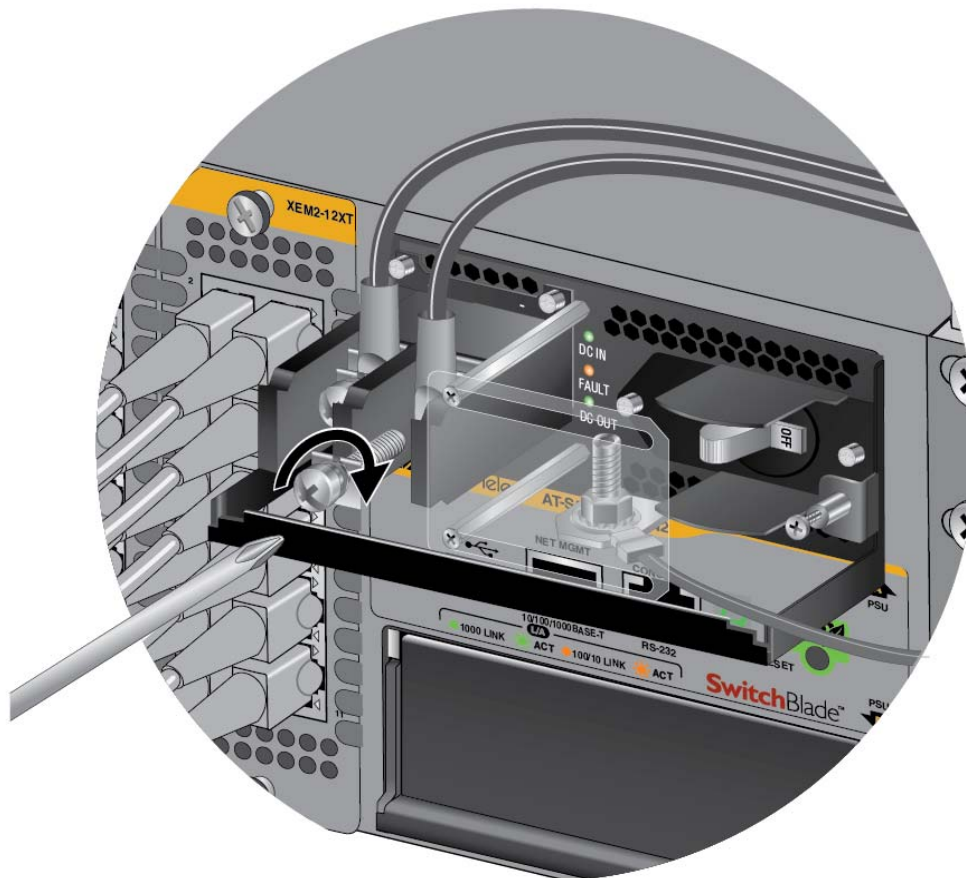

Figure 67. Connecting the Negative (-) Power Wire with a Straight Terminal
7. With a #3 Phillips-head screwdriver, connect the negative (-) power lead wire to the negative terminal on the power supply, with the remaining terminal screw removed in step 5. The negative terminal is on the right. You may attach the terminals with the wires either above or below the terminal block. Figure 67 on page 98 shows the wires above the terminal block.